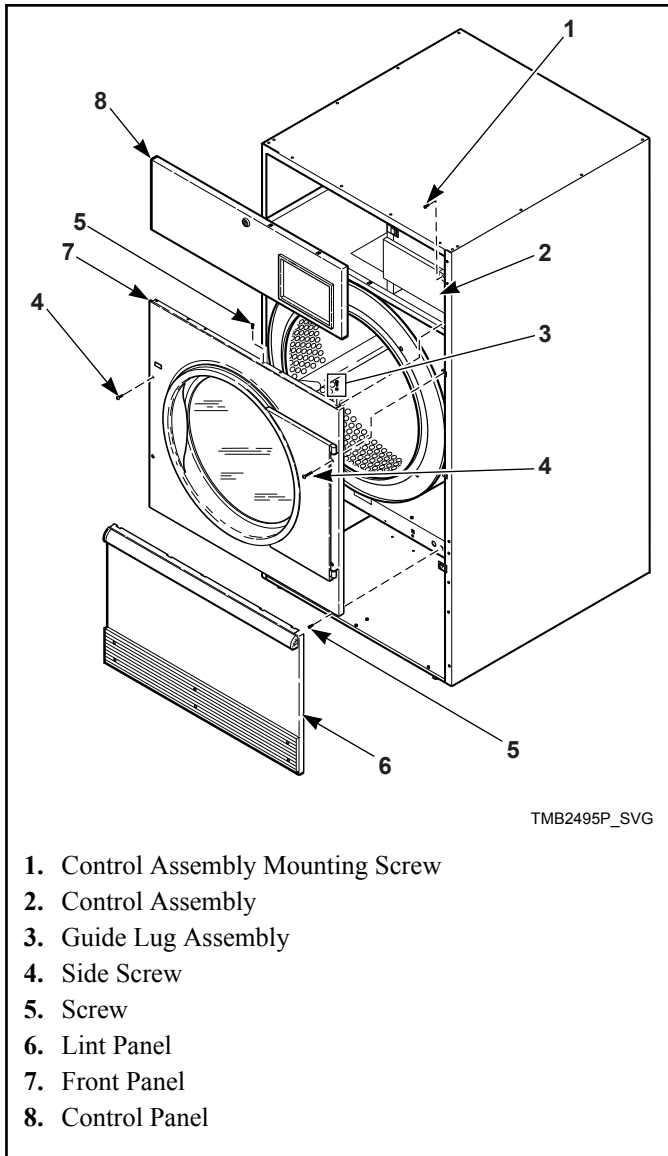
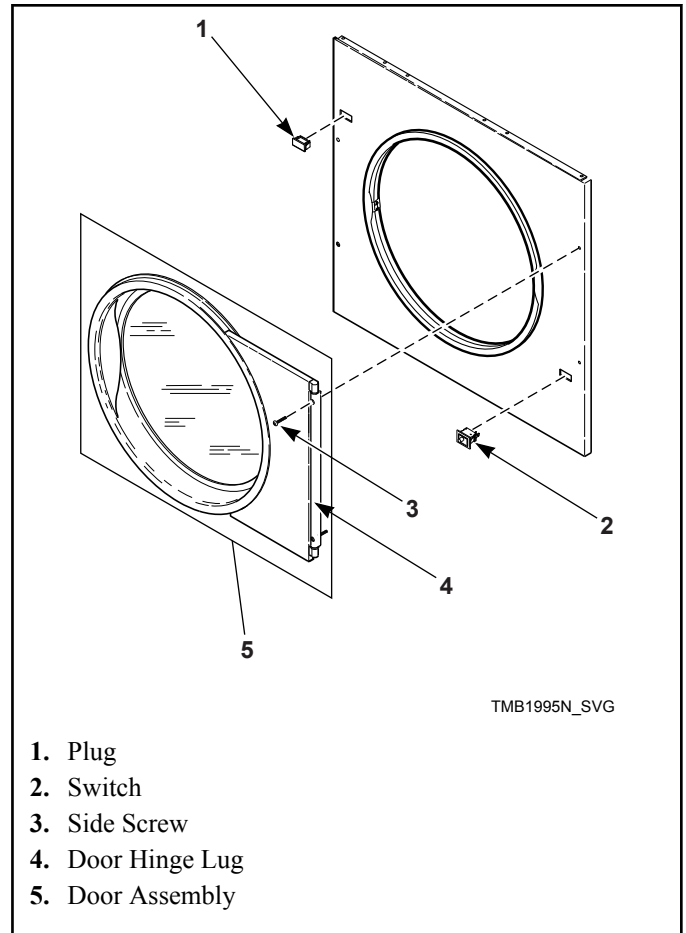

Figure 10
Figure 11
2. Unlock and remove control panel. Remove two control assembly mounting screws from right side. Swing open control to access upper flange right guide lug assembly. Refer to *Figure 10*.
4. Remove four front panel screws. Refer to *Figure 10*. Keep door hinge cams in place on door hinge lug. Pull lug and door assembly off as one piece. Refer to *Figure 11*.
5. Remove remaining front panel screws. Refer to *Figure 10*. Disconnect door switch harness from switch. Take off front panel. Refer to *Figure 11*.
Reinstall plug in switch's previous location. Refer to *Figure 11*.